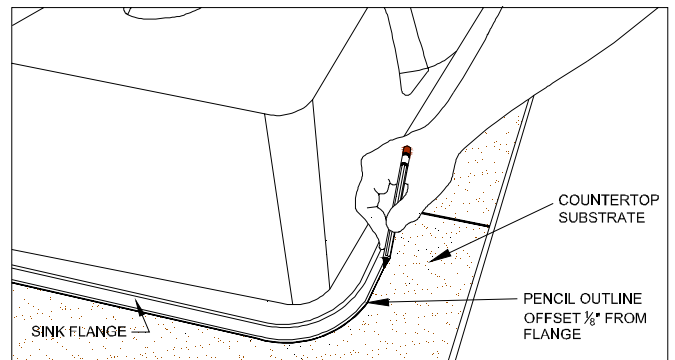

Figure 24B
- With a pencil, trace the outline of the sink, leaving an  $\frac{1}{8}$ " gap between the pencil line and the flange of the sink. (FIG. 24B)